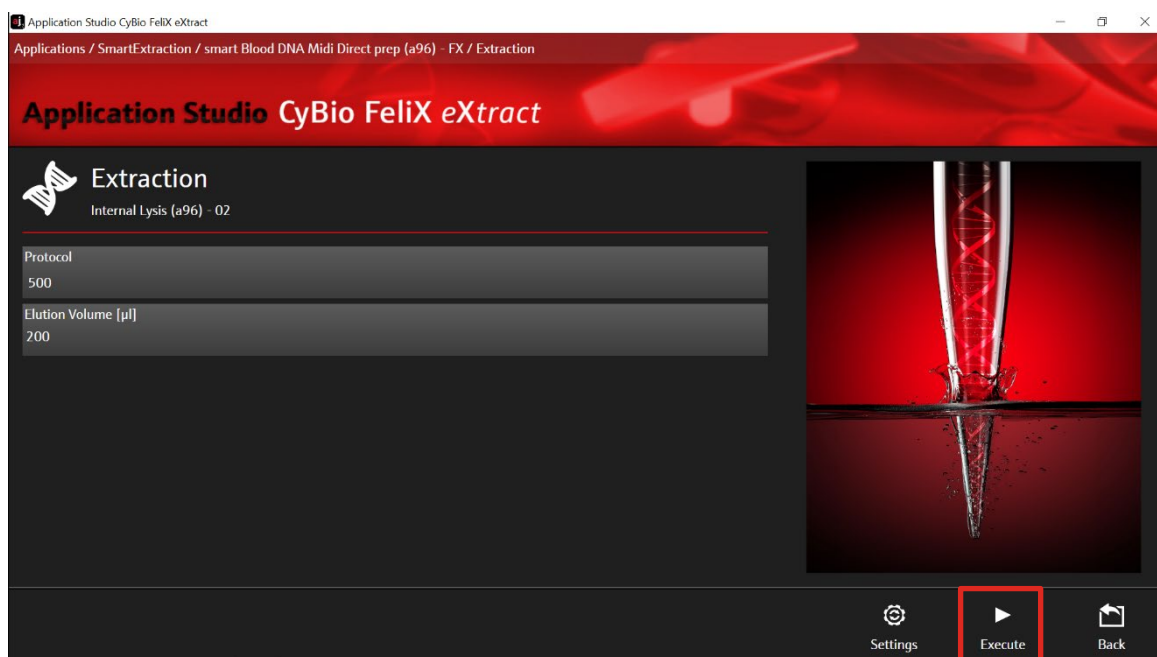

Figure 17: Selection of sample volume (500 µL) and elution volume (variable).
6. After selecting “Extraction” the Extraction Start Screen appears (→ see Figure 17).
8. Select the protocol by choosing the corresponding sample volume (500 µL) sample volume and adjust the "Elution Volume" between 150 – 500 µL using the text field (→ see Figure 17). Start the protocol by clicking the button "Execute".